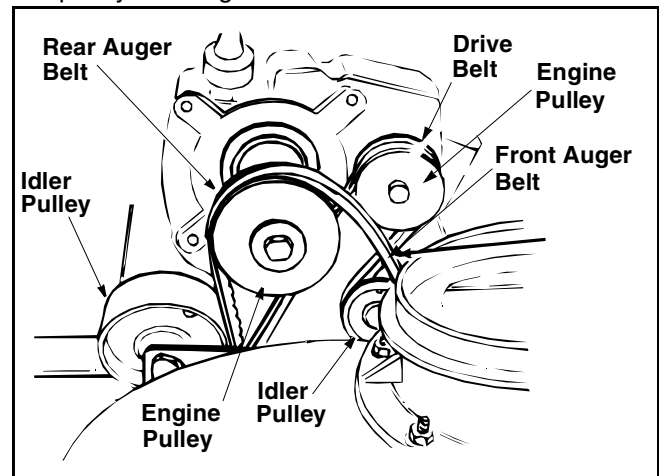

Figure 14
- Roll the front and rear auger belts off the engine pulley. See Figure 14.
- Pull idler pulley up, and lift belt off engine pulley and friction wheel disc. See Figure 14.